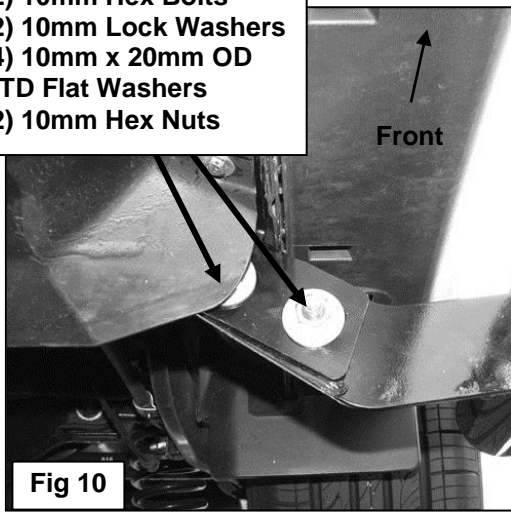

Fig 10
8. Line the mounting surface on the Support Bracket with the (2) holes in the Rear Mounting Bracket. Bolt the Support Bracket to the Mounting Bracket with the included (2) 10mm x 30mm Hex Bolts, (4) 10mm x 20mm STD OD Flat Washers, (2) 10mm Lock Washers and (2) 10mm Hex Nuts, **(Figure 10)**. Snug but do not tighten hardware at this time.